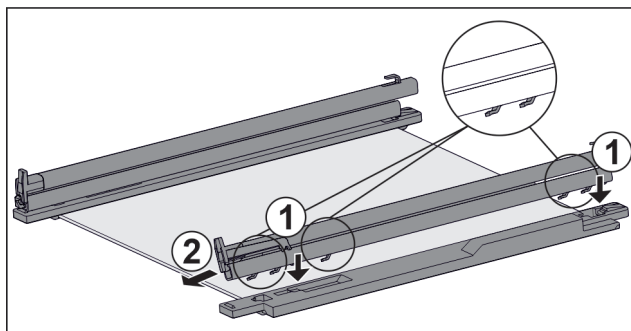

Fig. 154 Glass shelf with rails and retaining parts
- Place rail hooks onto the openings of the **left** retaining part. Fig. 154 (1)
- Push rail forwards. Fig. 154 (2)
- Place rail hooks onto the openings of the **right** retaining part. Fig. 154 (1)